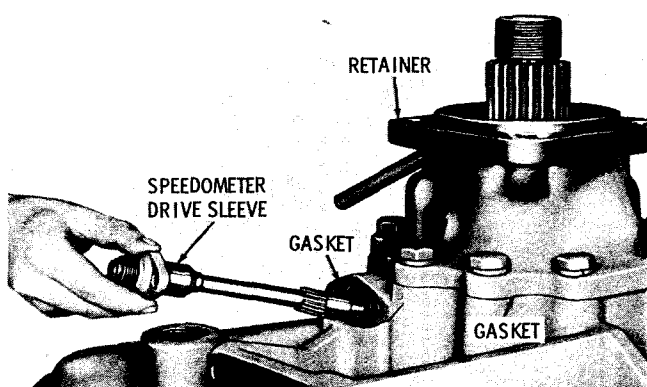

Fig. 5-57. Removing speedometer drive sleeve and shaft
(7) Remove two bolts and lockwashers from the speedometer drive sleeve. Remove the sleeve and speedometer drive shaft assembly (fig. 5-57). Remove the gasket. If the transmission is equipped with an automatic-electric shift control